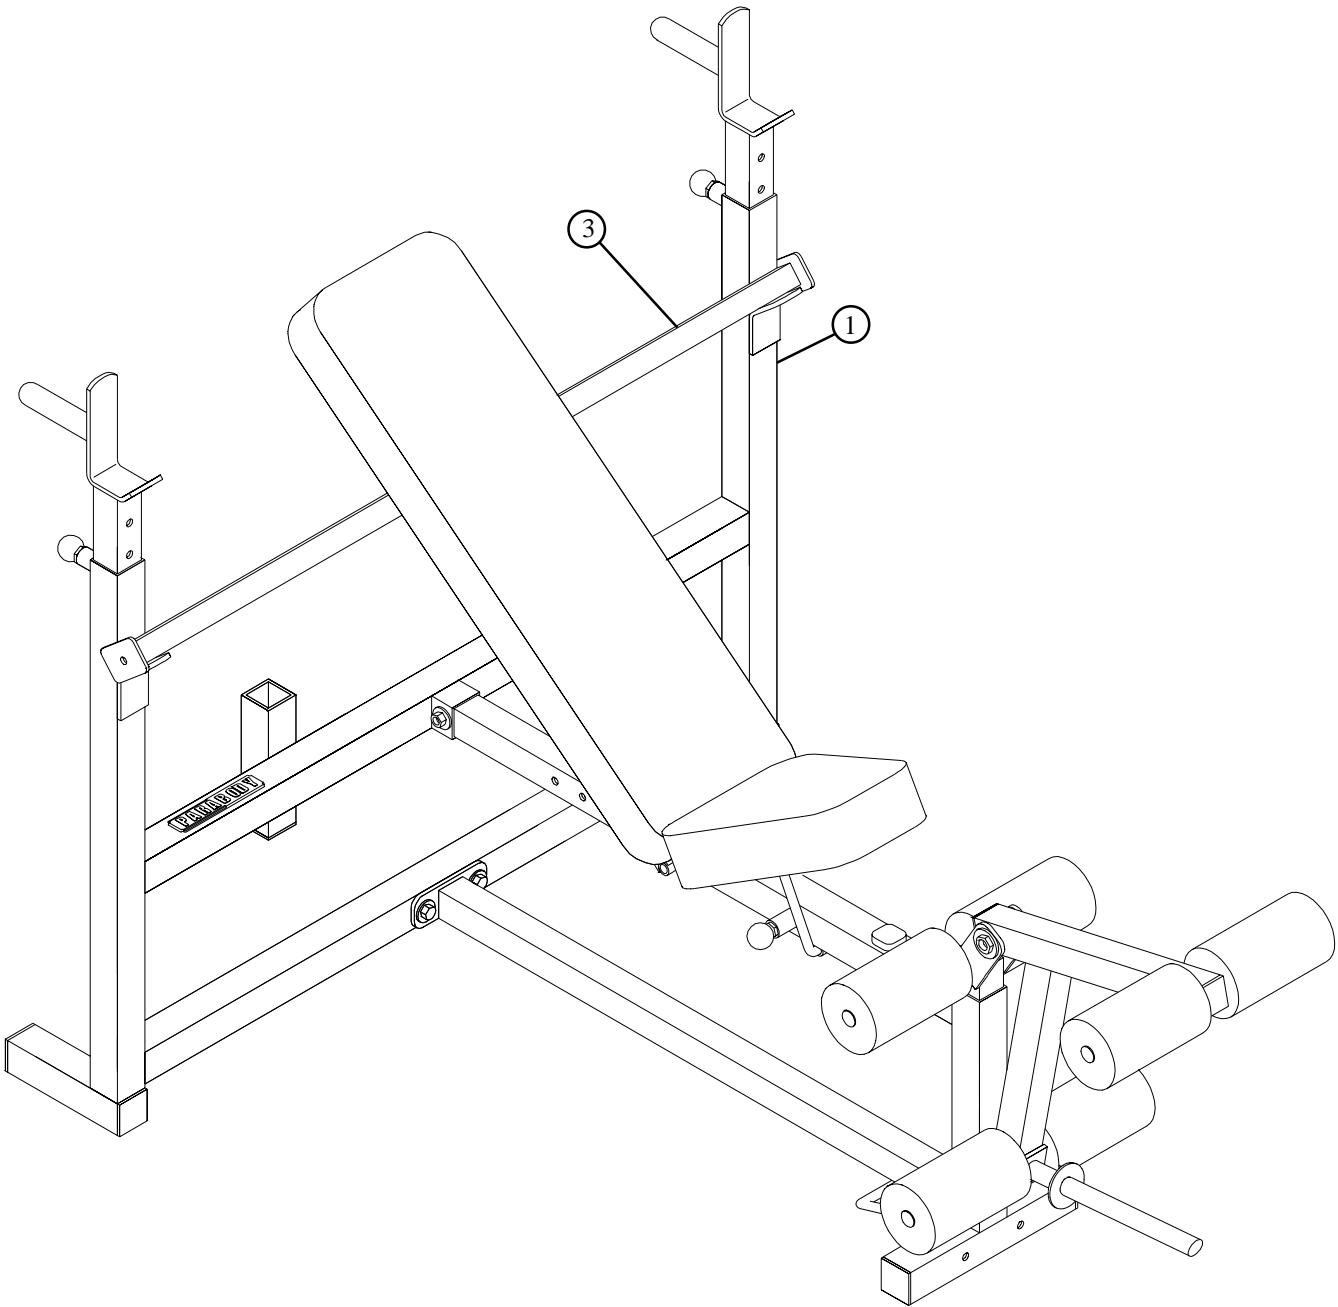

FIGURE 10
- Set the HEIGHT ADJUSTMENT BAR (3) across the UPRIGHT FRAME (1) as shown in FIGURE 10, for performing INCLINE, or MILITARY PRESSES. When performing DIPS, use the HEIGHT ADJUSTMENT BAR (3) to hold the BACK PAD forward as shown in the WALL CHART.